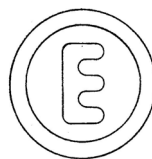

FIGURE 1—FASTENER HEAD MARKING
7.1 Cartons of ET&F pneumatic fasteners are identified with the manufacturer’s name (ET&F Fastening Systems, Inc.), product name, catalog number (AGS-100) and the evaluation report number (ESR-2398). The head of each fastener is stamped with the logo shown in Figure 1.